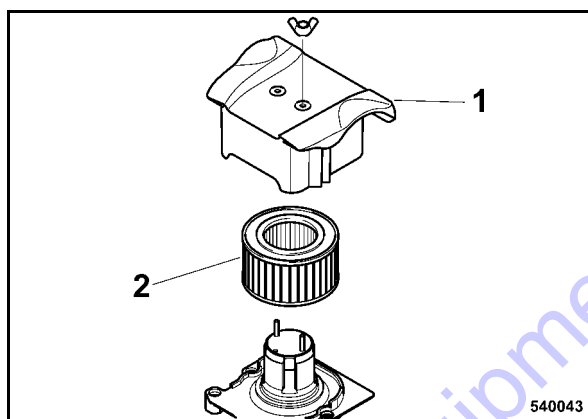

Fig. 64
- Remove cover (1) (Fig. 64), carefully take out filter cartridge (2).
- Insert the filter cartridge (2) (Fig. 64) and close the air filter cover.